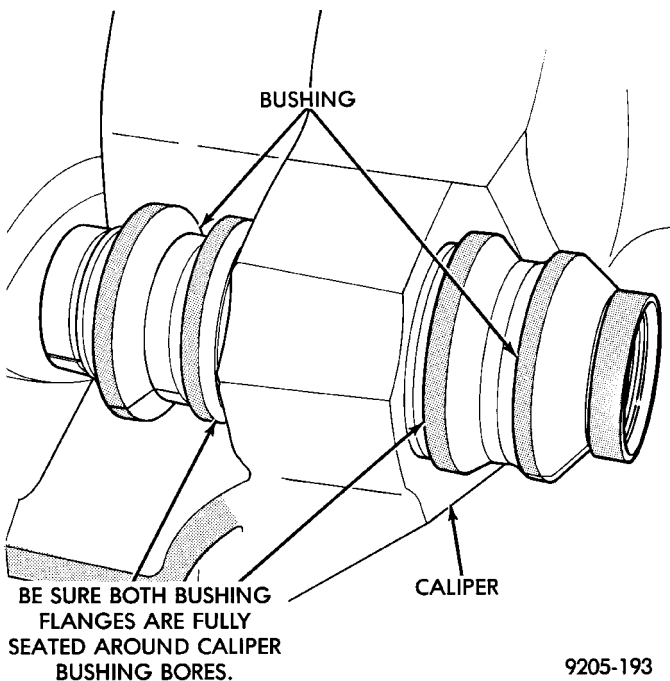

Fig. 172 Bushing Correctly Installed In Caliper
(3) Unfold the bushing using your fingers or a wooden dowel until the bushing is fully seated into the caliper housing. Flanges should be seated evenly on both sides of the bushing hole (Fig. 172).